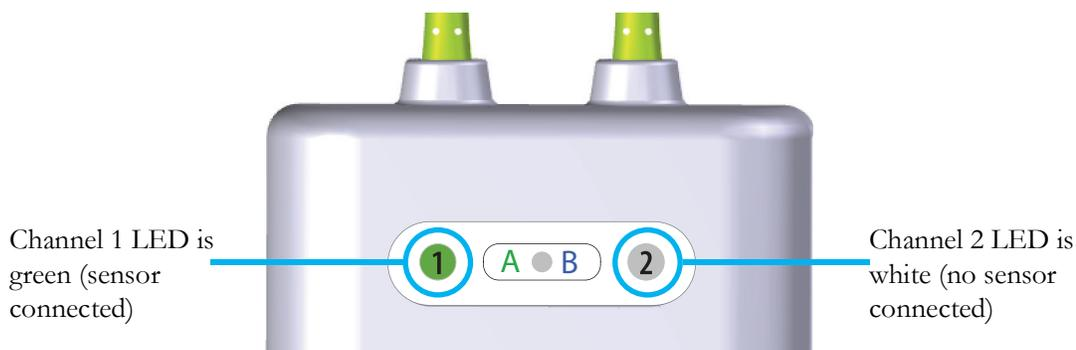

Figure 13-14 Connecting a sensor to the ForeSight module – channel status LED
- 6 Verify that the channel status LED indicator on the ForeSight Elite module changes from white to green when the sensor is fully connected. See figure 13-14.